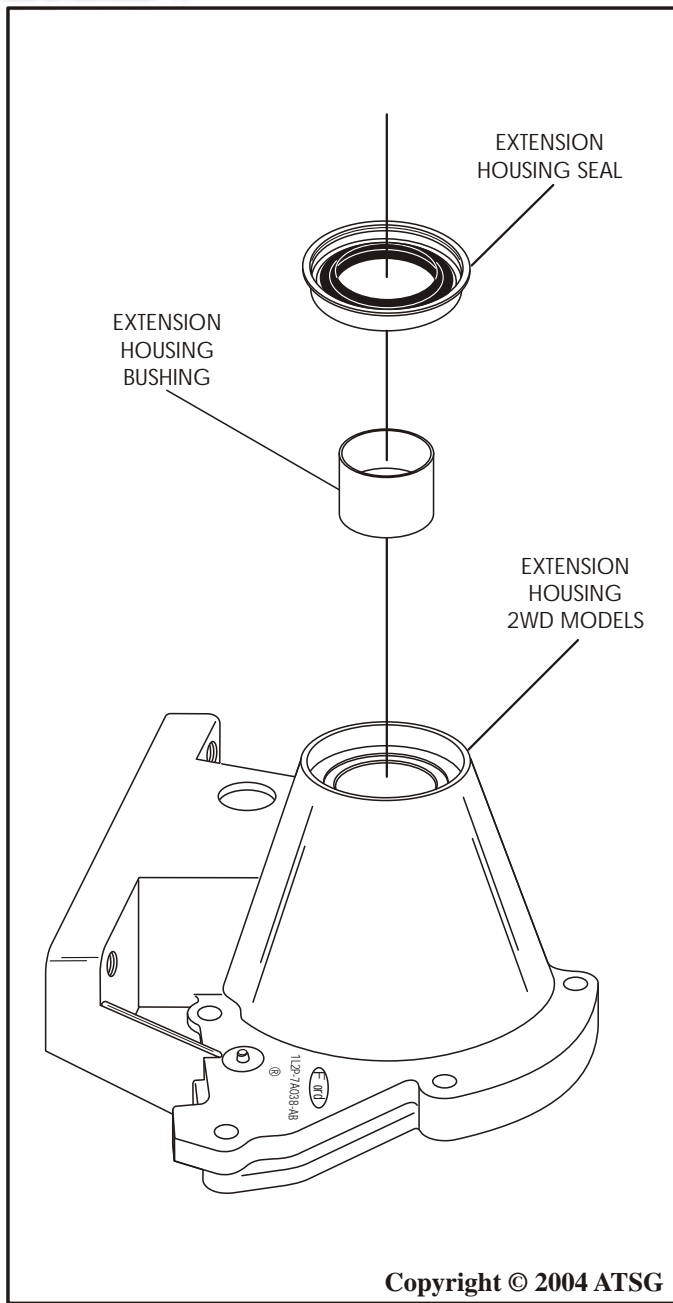

Figure 123
2. Replace the 2WD extension housing bushing as necessary, using the appropriate puller and bushing driver. Use Figure 123 as a guide.
3. Install a new extension housing yoke seal, as shown in Figure 123, using the appropriate seal driver.